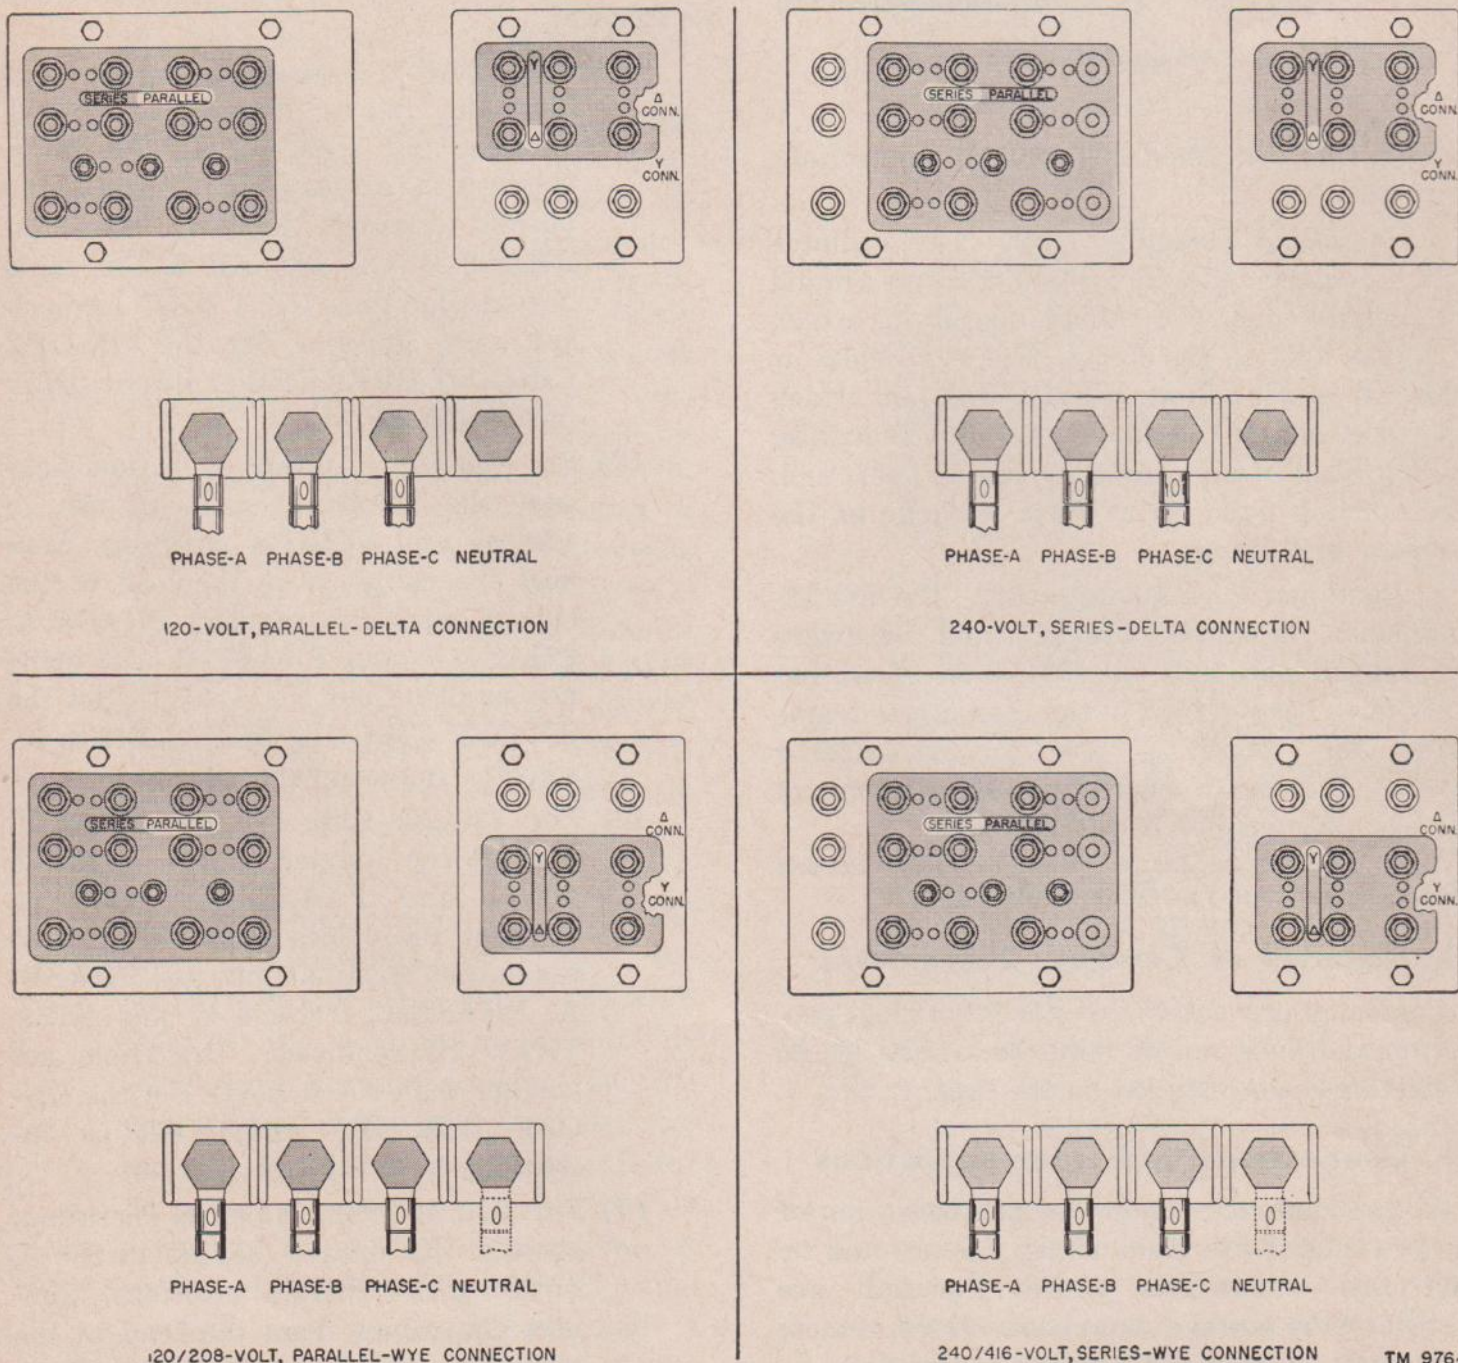

Figure 8. Power output connections.
a. Power Output Connections (fig. 8). The Y- Δ CHANGE BOARD, SERIES-PARALLEL CHANGE BOARD, and power output terminals and receptacles are located on the left side of the unit. Check the output rating in which the unit is connected by sighting through the windows in the doors of the change boards. The wye-delta board is marked Y (wye) and Δ (delta); the series-parallel board is marked SERIES and PARALLEL. To change the voltage connections, remove the nuts and washers that are used to secure the jumper boards to the terminal board. (Use the nut driver supplied with the unit to remove the nuts.) Then proceed as follows:
- (1) For 120-volt, 3-phase operation, connect the jumper boards in the Δ (delta) and PARALLEL positions. Connect the cables from the load to the output terminals marked PHASE-A, PHASE-B, and PHASE-C. Use cable not smaller than No. 4 AWG (American wire gauge). Set the ON-OFF CIRCUIT BREAKER as instructed in paragraph 18b(1).
- (2) For 240-volt, 3-phase operation, connect the jumper boards in the Δ (delta) and SERIES positions. Connect the cables from the load to the output terminals marked PHASE-A, PHASE-B, and PHASE-C. Use cable not smaller than No. 6 AWG. Set the ON-OFF CIRCUIT BREAKER as instructed in paragraph 18b(1).
- (3) For 120/208-volt, 3-phase operation, connect the jumper boards in the Y (wye) and PARALLEL positions. Connect the cables from the load to the output terminals marked PHASE-A, PHASE-B, PHASE-C, and NEUTRAL (if required). Use cable not smaller than No. 6 AWG. Set the ON-OFF CIRCUIT BREAKER as instructed in paragraph 18b(1).
- (4) For 240/416-volt, 3-phase operation, connect the jumper boards in the Y (wye) and SERIES positions. Connect the cables from the load to the output terminals marked PHASE-A, PHASE-B, PHASE-C, and NEU-